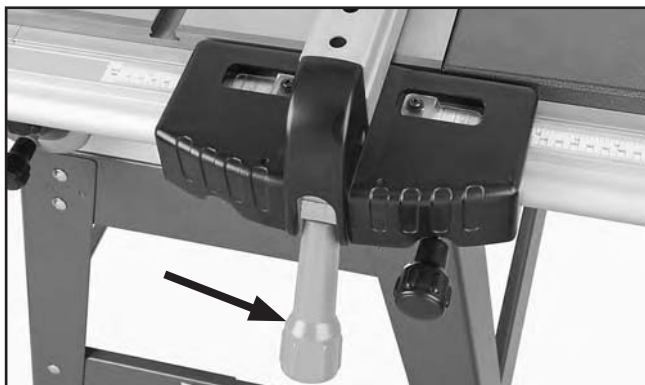

Figure 25. Fence lock handle installed on fence.
26. Thread the fence handle into the fence (see **Figure 25**), then mount the fence on the front and rear rails and to the right of the blade.